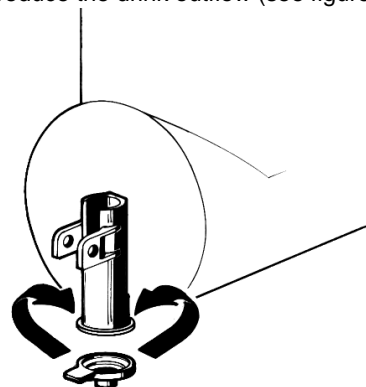

figure 4
- 11 - Restrictor cap: when the unit is used in Soft Drink mode it is advisable to install the restrictor cap on the faucet outlet in order to reduce the drink outflow (see figure 4).